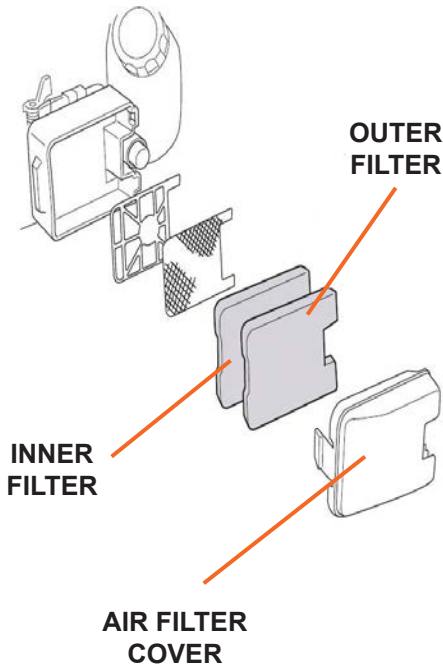

Figure 6
1. Check and clean the air filters on a regular basis. A dirty filter will effect the cultivator's performance (see Figure 6).